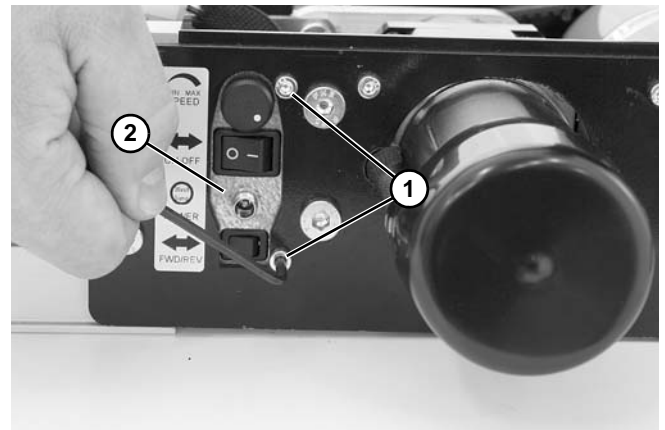

Figure 159
4. Remove two socket head screws (Figure 159, item 1) and switch assembly (Figure 159, item 2) from conveyor frame.